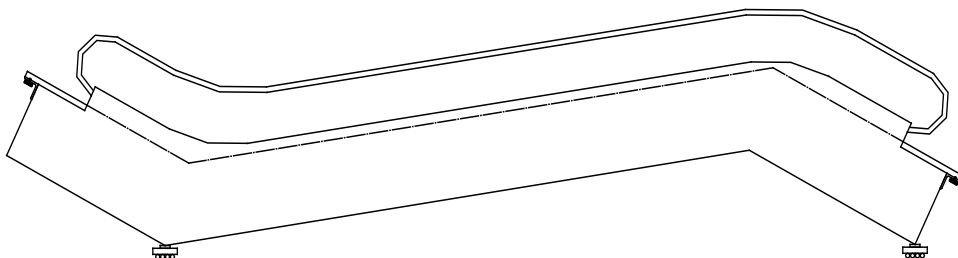

Figure 6 Method for horizontal movement of the escalator
3.7 For horizontal movement of the entire escalator on the ground, put sleepers, roll or logs at the supporting points of the upper and lower parts of the escalator before moving them slowly. Refer to Figures 6, 7 and 8.